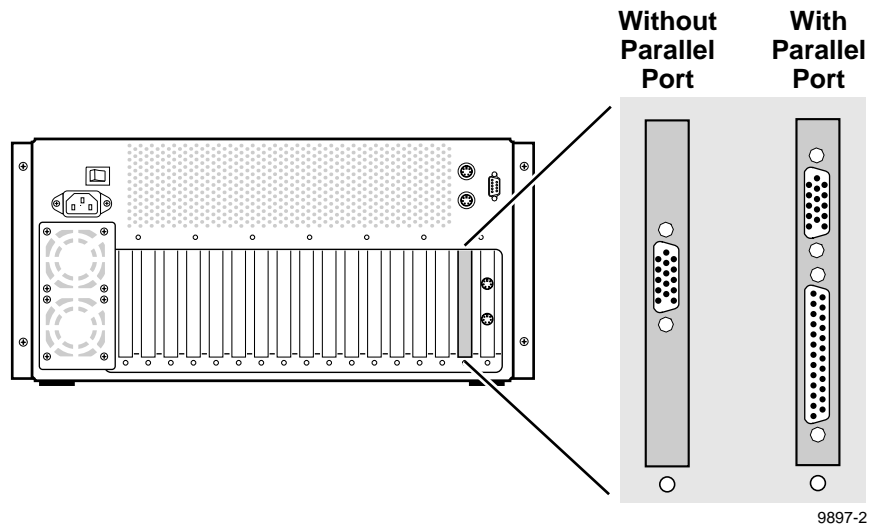

Figure 7. PDR 100 VGA board with and without a parallel port
1. Compare your PDR 100 to Figure 7, which shows VGA boards with and without a parallel port. Then do one of the following: